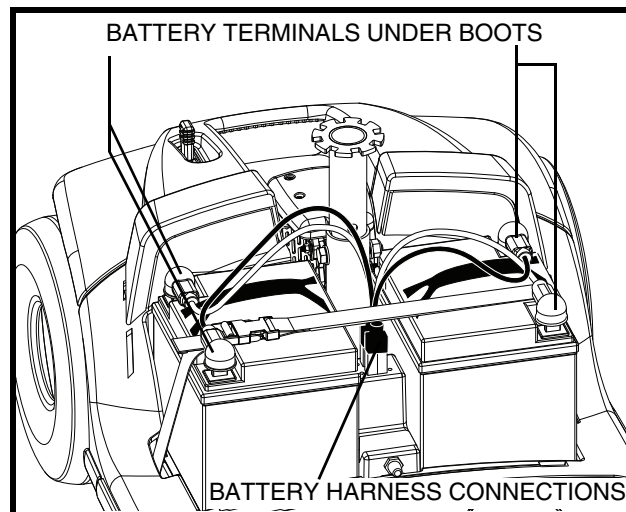

Figure 11. Battery Removal/Installation
3. Disconnect the battery harnesses by pulling them straight up. **See figure 11.**
6. Place a new battery in each battery well. Face the battery terminals of both batteries away from the seat post. **See figures 11 and 12.**